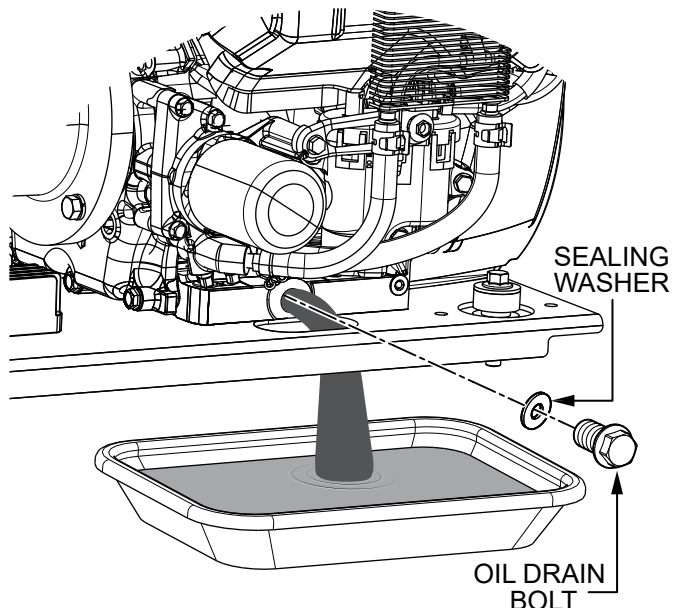

Figure 32. Draining The Engine Oil
2. Remove the **oil drain bolt** and **sealing washer** (Figure 32). Allow the oil to drain into a suitable container.